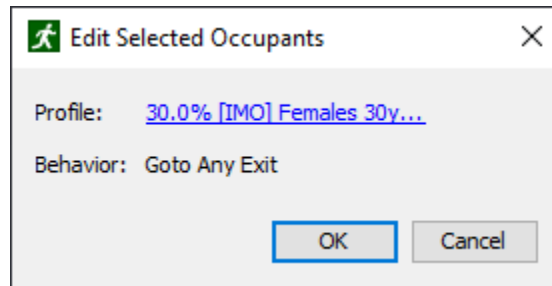

Figure 112. Edit Selected Occupants dialog
1. Select occupants, right-click one of the selected occupants either in the Navigation view or Model view, and then select **Properties** from the right-click menu. To edit a single occupant or group, double-click the occupant or group in the Navigation view. The Edit Selected Occupants dialog will appear as shown in Figure 112.